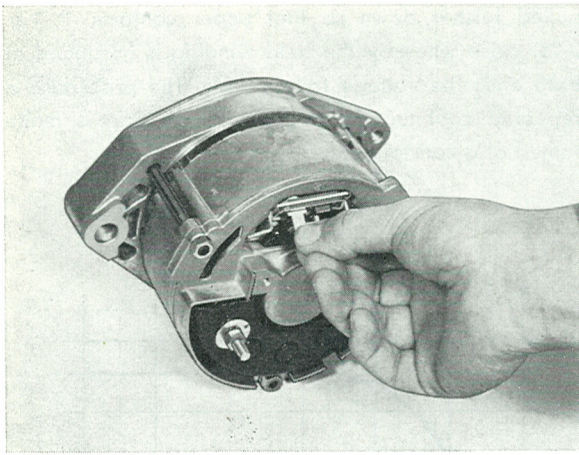

Fig. 3-7. Removing the brush holder
2. Remove the screws holding the brush holder and then take off the holder, see Fig. 3-7.